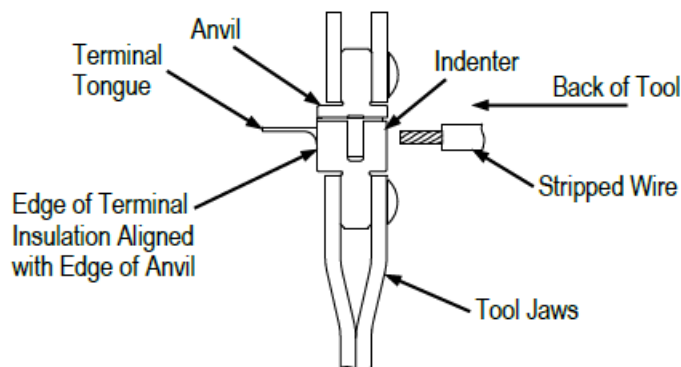
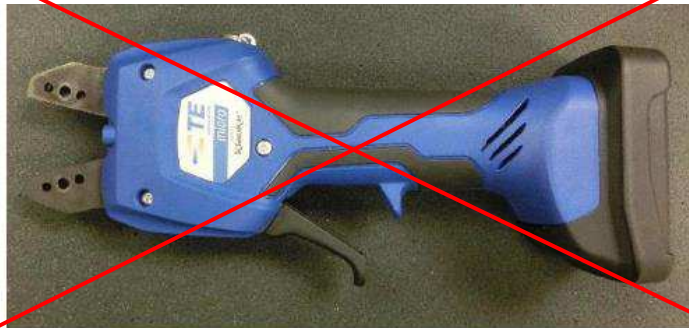

Figure 3
Figure 6
4. CRIMPING PROCEDURE [REFERENCE FIGURE 3]
- Moved locations of Figure 3 and 4 and added Figure 6 designation
- Revised many part numbers in Figure 6 and designated Micro SDE tool 2280380-[] as not recommended.